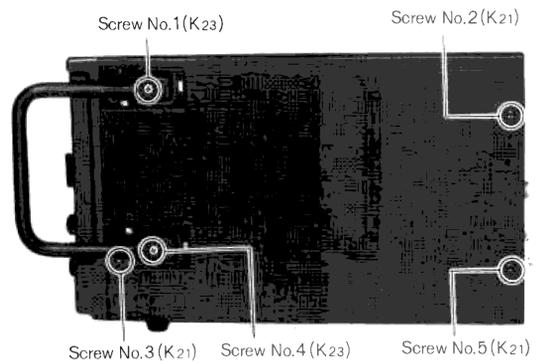

Fig. 2
2. Remove the six (5) screws (nos. 1~5) for the handle and cabinet cover, as shown in fig. 2.